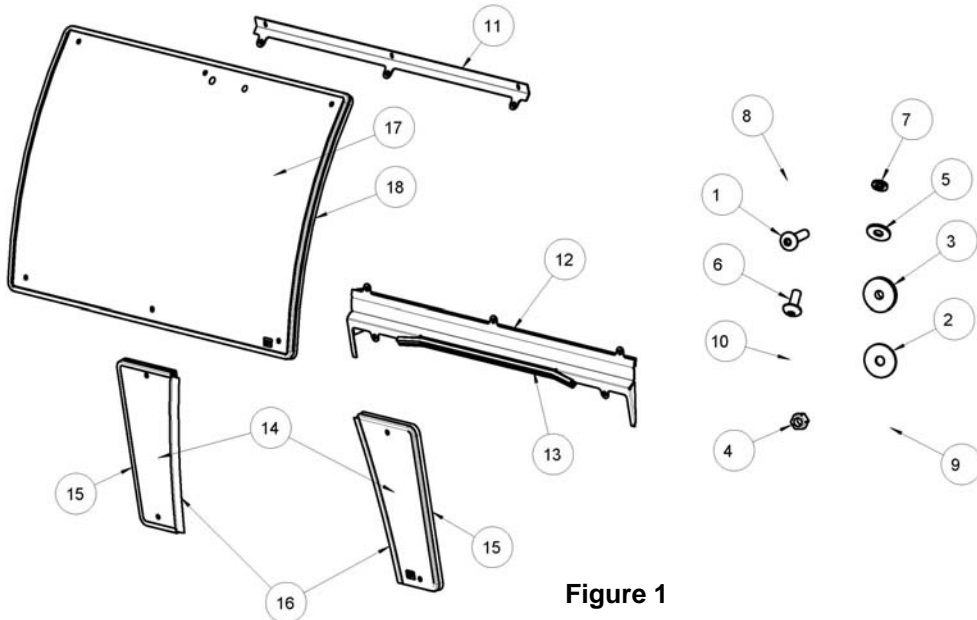

Figure 1
3. Unpack and identify components (**Figure 1**).